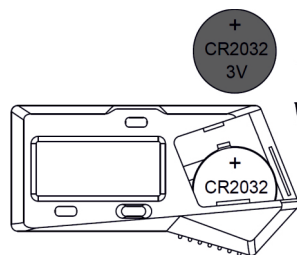

Fig. 2
- » Insert a CR2032 battery with the positive side (+) facing outwards (Fig. 2).